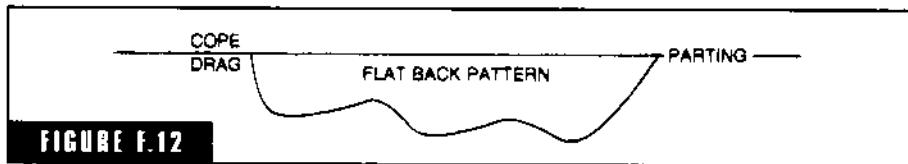

FIGURE F.12
**flat back patterns** Patterns that are flat on the side presented to the cope and do not extend into the cope of the mold. The entire mold cavity is in the drag (Fig. F-12).